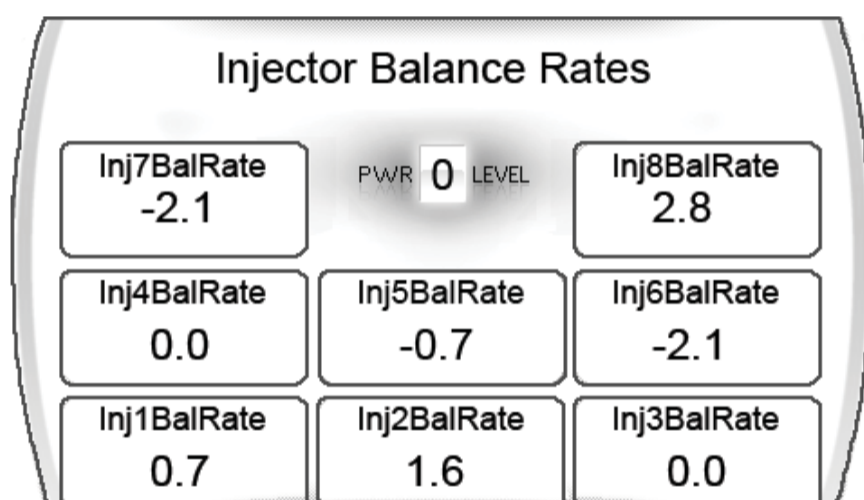

Figure 12
2. **Select Yes.** Figure 12 will appear. Each box represents an Injector. This screen is where you'll want to compare the injector balance rates in both Park and Drive.
**NOTE:** Figure 12 injector balance screen shot represents a truck with injector balance rates that are acceptable. The sample was taken in park. You can see that there are no numbers higher than +4.0 or -4.0 on the screen, so it's safe to assume the injectors are working properly.